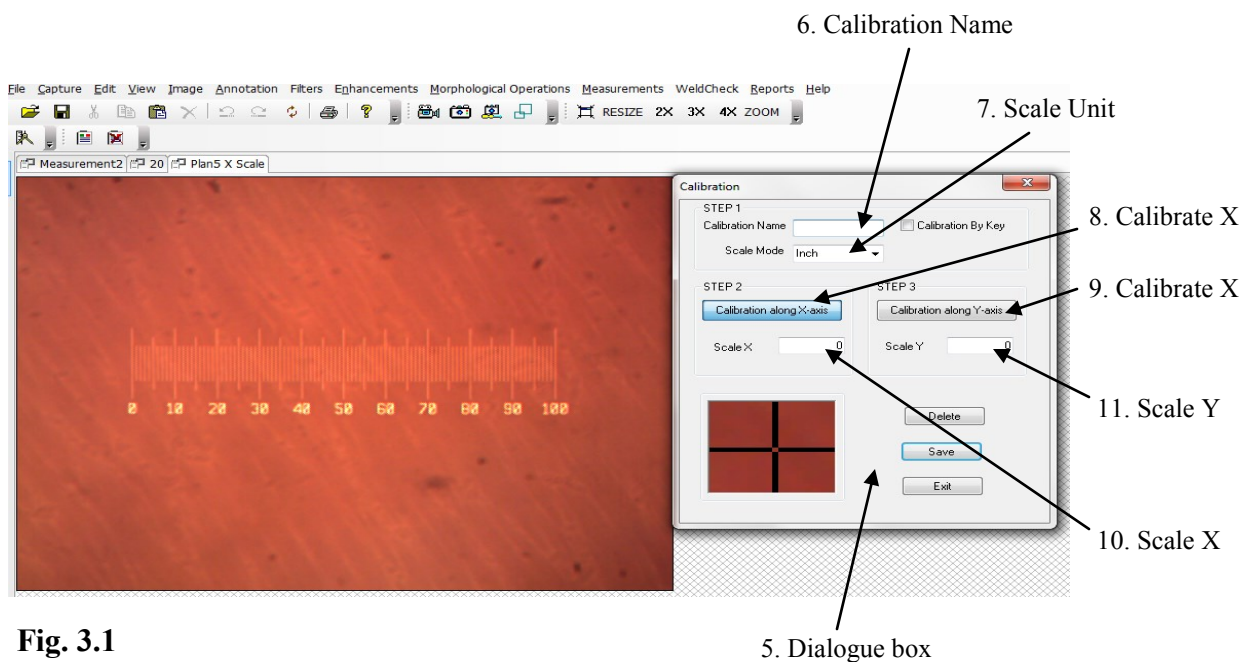

Fig. 3.1
5. The dialogue box will appear. (fig. 3.1)